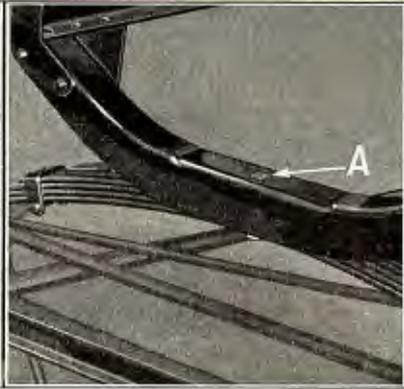

Fig. 63
- 63 Connect frame to front axle assembly**—Position frame on front axle assembly, making sure that head of tie bolt (See “A” Fig. 63) enters hole in cross member.